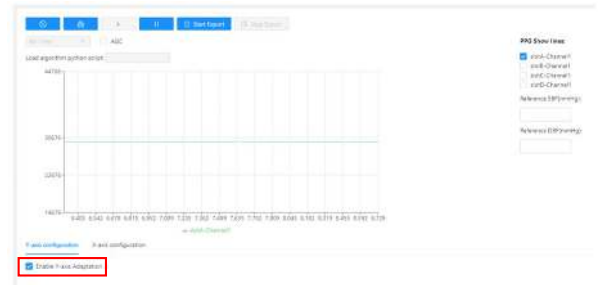

Figure 37. Waveform
2. The waveform appears in the **Plot View** page (see Figure 37). If the waveform is out of scale, select the **Enable Y-axis Adaptation** check box to adapt the vertical scale of the plot to the waveform scale.